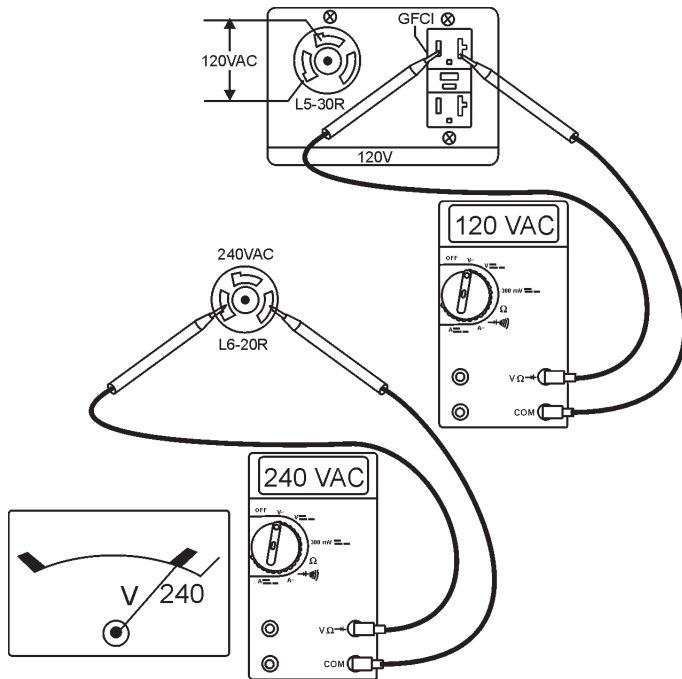

Figure 22. 120/240 VAC- 60 Hz Output Receptacles
5. Read the **voltmeter** on the front panel of the generator (Figure 22) and verify that 240 VAC is present at the 240V twist-lock receptacle. Using an external voltmeter verify that 120V is present at the 120V twist-lock and GFCI duplex receptacles.